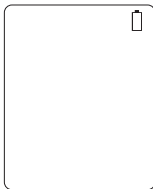

Figure 9
1. Replace battery when “” flashes in the upper right corner of LCD display. (See Figure 9)